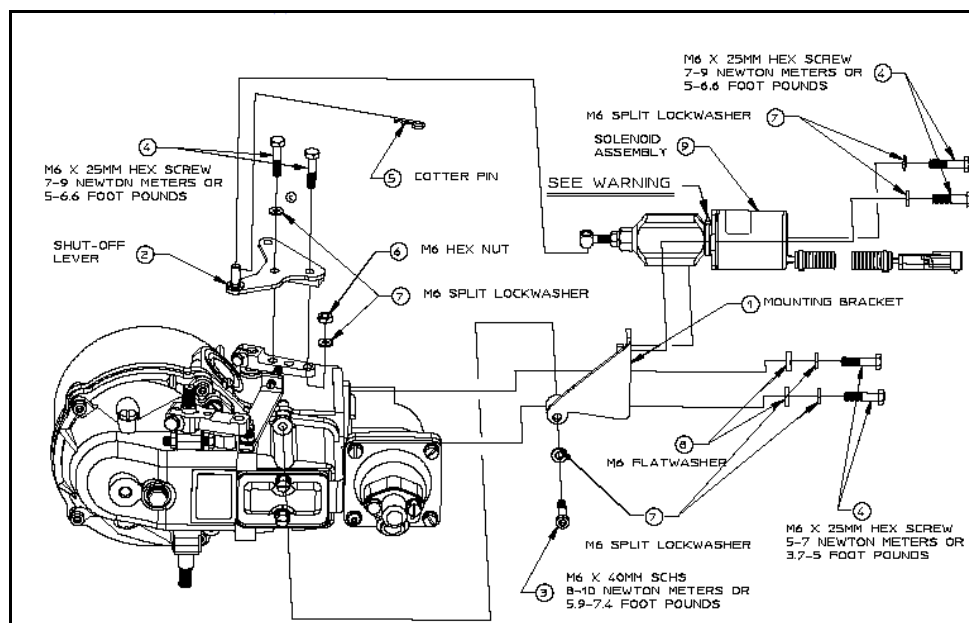
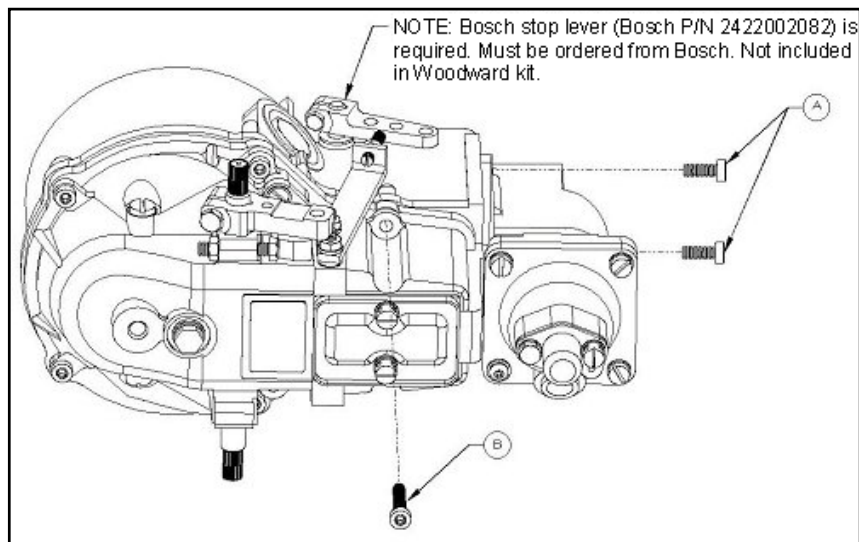

Figure 2. Exploded Assembly View
Figure 3. Preparation Prior to Installing Solenoid and Bracket
The Bosch stop lever (Bosch P/N 2422002082 [see Figure 3]) is required and is *not* included in this kit. If this lever is not included on your Bosch governor, you must order it from Bosch.
Refer to **Figure 2**.
Refer to **Figure 2** and **Figure 3**.
1. Remove and discard the two top cap screws (A) that bolt the aneroid to the top outboard side of the governor.
2. Remove and discard the single socket head cap screw (B) from the governor housing.
3. Position the mounting bracket (1) onto the governor housing as shown in **Figures 2 & 4**.
4. Finger tighten two M6 x 25 mm hex screws (4), two M6 split lock washers (7), and two M6 flat washers (8) into the top two holes of the mounting bracket to fasten the bracket to the governor housing.
5. Assemble a M6 x 40 mm socket head cap screw (3) and a M6 split lock washer together and bolt these into the lower rear of the mount bracket. Torque these to 8–10 Nm (5.9–7.4 ft-lb).